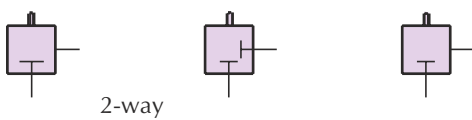

Figure 10
8. 2-way valves are seldom used in air logic circuits but on those occasions where a 2-way valve is needed the 3-way valve symbol can be used, with an appropriate notation as to its function in the circuit such as shown in figure 10.